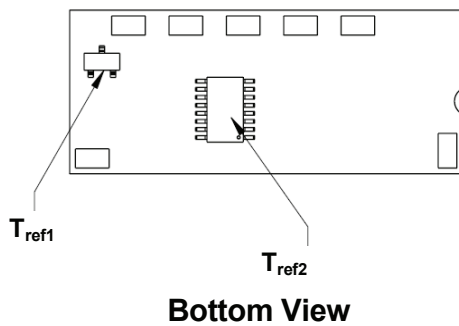
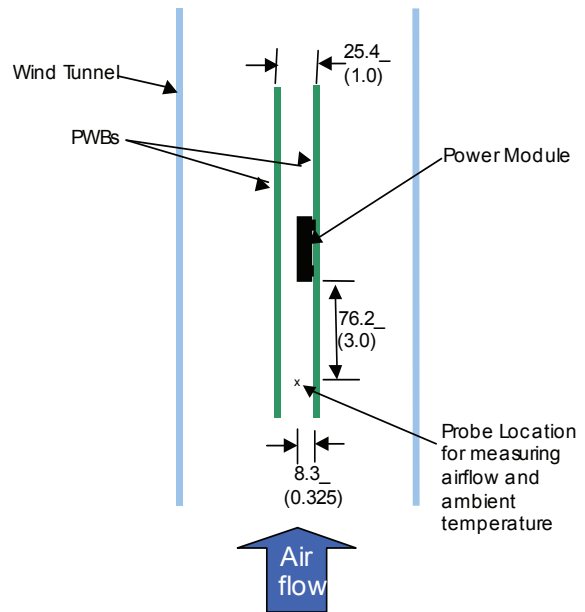

Figure 31. Temperature measurement locations T_{ref1} and T_{ref2} .
Figure 32. Thermal Test Set-up.
Considerations include ambient temperature, airflow, module power dissipation, and the need for increased reliability. A reduction in the operating temperature of the module will result in an increase in reliability. The thermal data presented here is based on physical measurements taken in a wind tunnel. The test set-up is shown in Figure 32. Note that the airflow is parallel to the short axis of the module as shown in figure 31. The derating data applies to airflow in either direction of the module's short axis.
The thermal reference points, T_{ref1} and T_{ref2} used in the specifications are shown in Figure 31. For reliable operation these temperatures should not exceed 115°C. The output power of the module should not exceed the rated power of the module ($V_{o,set} \times I_{o,max}$).